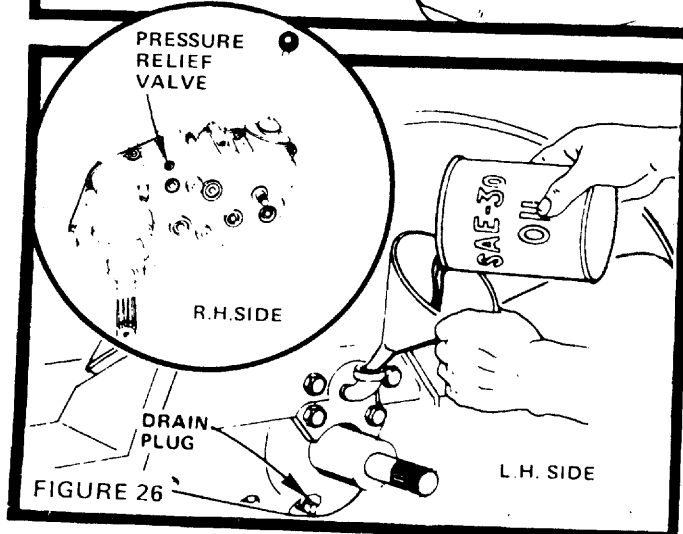

FIGURE 26
- Check Pressure Relief Valve located on R.H. side near top (Fig. 26). It should spring completely closed when pulled out by hand and released.
- Drain Transaxle Oil by removing Drain Plug (Fig. 26) and catching Oil in suitable container. Replace Drain Plug.
- Refill Transaxle with S.A.E. 30 (SC, SD or SE) Motor Oil. Capacity is 5 quarts. Pressure Relief Valve (R.H. side of Transaxle, Fig. 26, Inset) may be held open to allow Transaxle to fill more quickly.